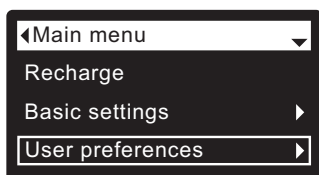

FIG. 48
1. From any of the rolling status screens, press the SELECT (O) button to display the **Main menu**.
2. Press the DOWN (▼) button to scroll through the menu options until **User preferences** is highlighted (See Figure 48).